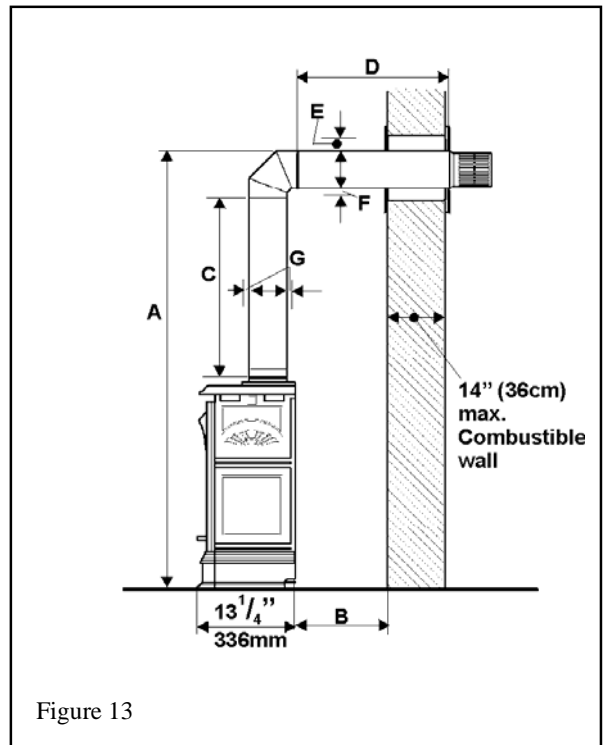

Figure 13
4.2.10. Top vent connection, vertical vent rise with horizontal rear termination (Fig.13)
The location requirements are (See figure 13):-
4.2.11. Top vent connection, vertical vent rise with horizontal side termination (Figs.13 &14)
4.2.13. Top vent connection, corner location, vertical rise, horizontal termination, 45° pipe bend (Figs 13 & 15)
4.2.14. Top vent connection, corner location, vertical rise, straight horizontal termination (Figs 13 & 16)